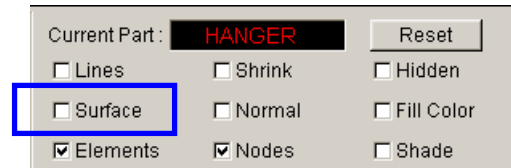

Figure 1.8
- a) Toggle off “Surface” on the display option (see Figure 1.8)